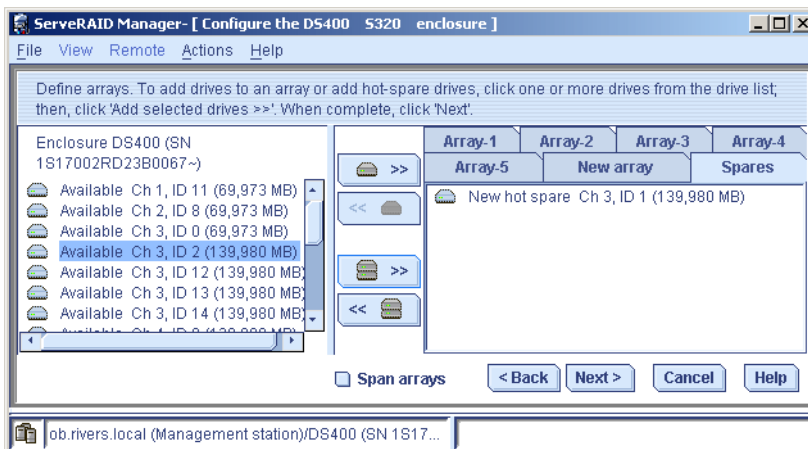

Figure 4-96 Spares tab with spare drive
12. The selected drives will be moved to the **Spares** tab. This will be the global hotspare drive. See Figure 4-96 on page 137.